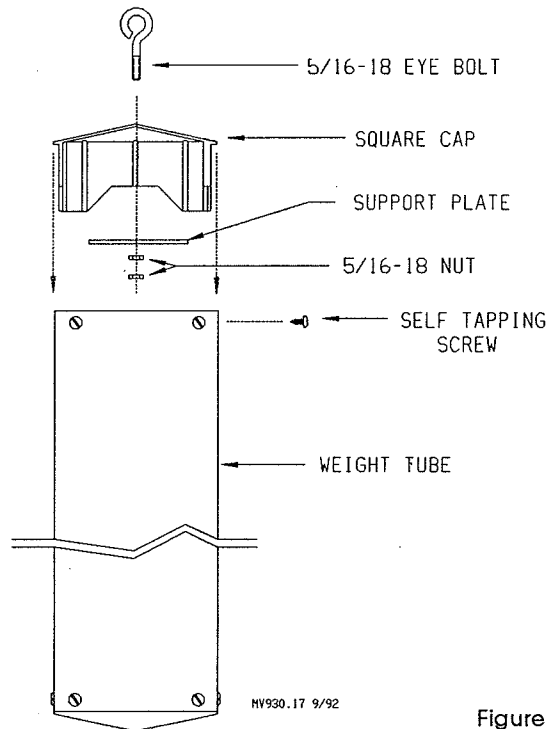

Figure 4.
4. Assemble the Weight Kits, as shown in Figure 4.